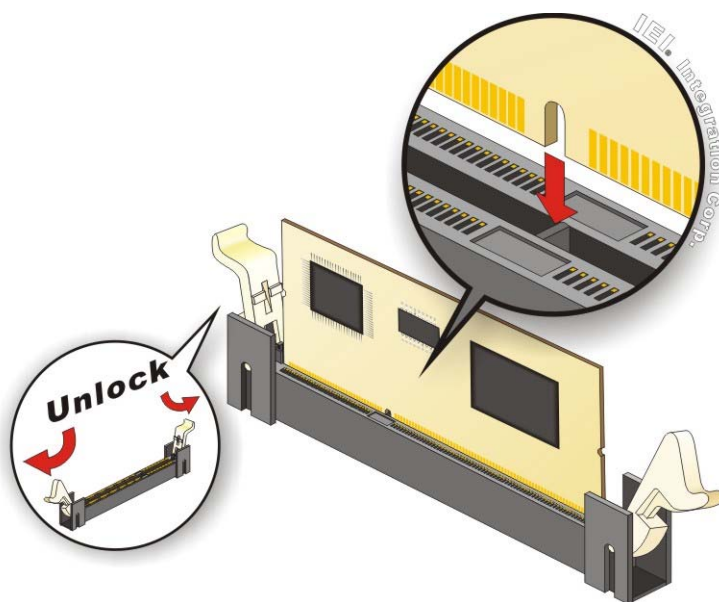

Figure 4-2: iRIS Module Installation
To install the iRIS-2400 module, please follow the steps below and refer to **Figure 4-2**.
- Step 2:** Open the socket handles. Open the two handles outwards as far as they can. See Figure 4-2.
- Step 3:** Align the iRIS-2400 module with the socket. Align the iRIS-2400 module so the notch on the module lines up with the notch on the socket. See Figure 4-2.
- Step 4:** Insert the iRIS-2400 module. Once aligned, press down until the iRIS-2400 module is properly seated. Clip the two handles into place. See Figure 4-2.